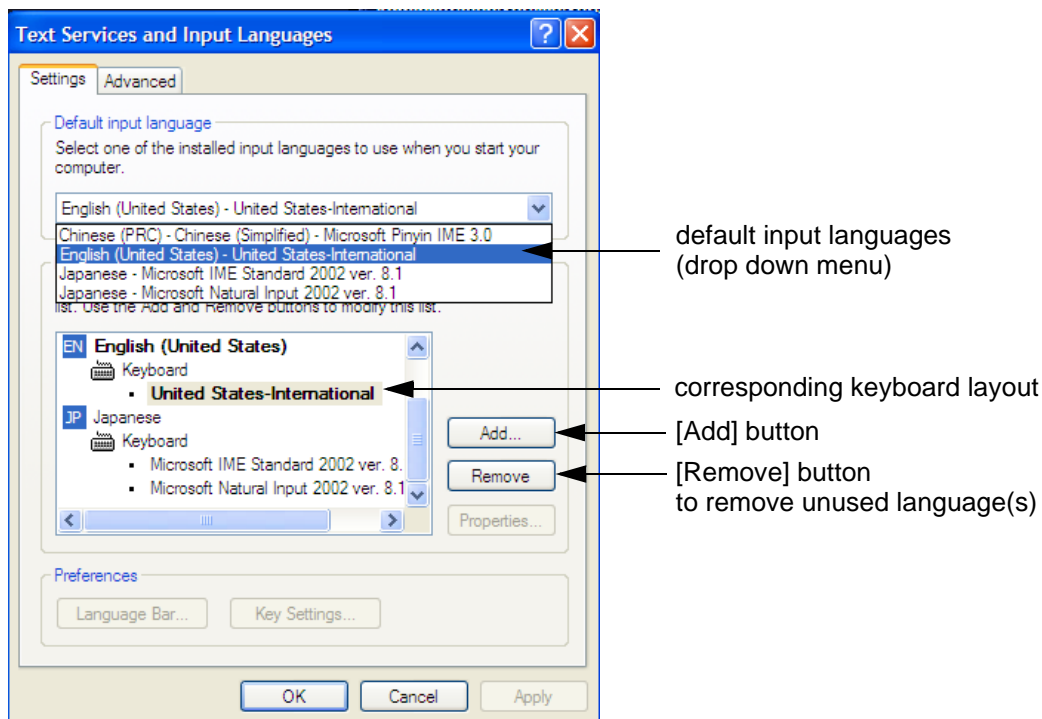

Figure 6-3 Default input language
- 7.) If not already done, select the default input language from the drop down menu (see: Figure 6-3). The corresponding keyboard layout is changed automatically.